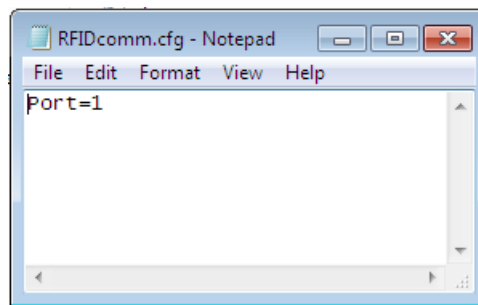

Figure 2.5
4. Set equipment port (The port must be same of computer): use “notepad” opened the way to open “RFIDcomm.cfg”document→Settings equipment port (The port must be same of computer); In order to enter the following interface is shown in figure 2.5 (set successfully save it, close the text box):